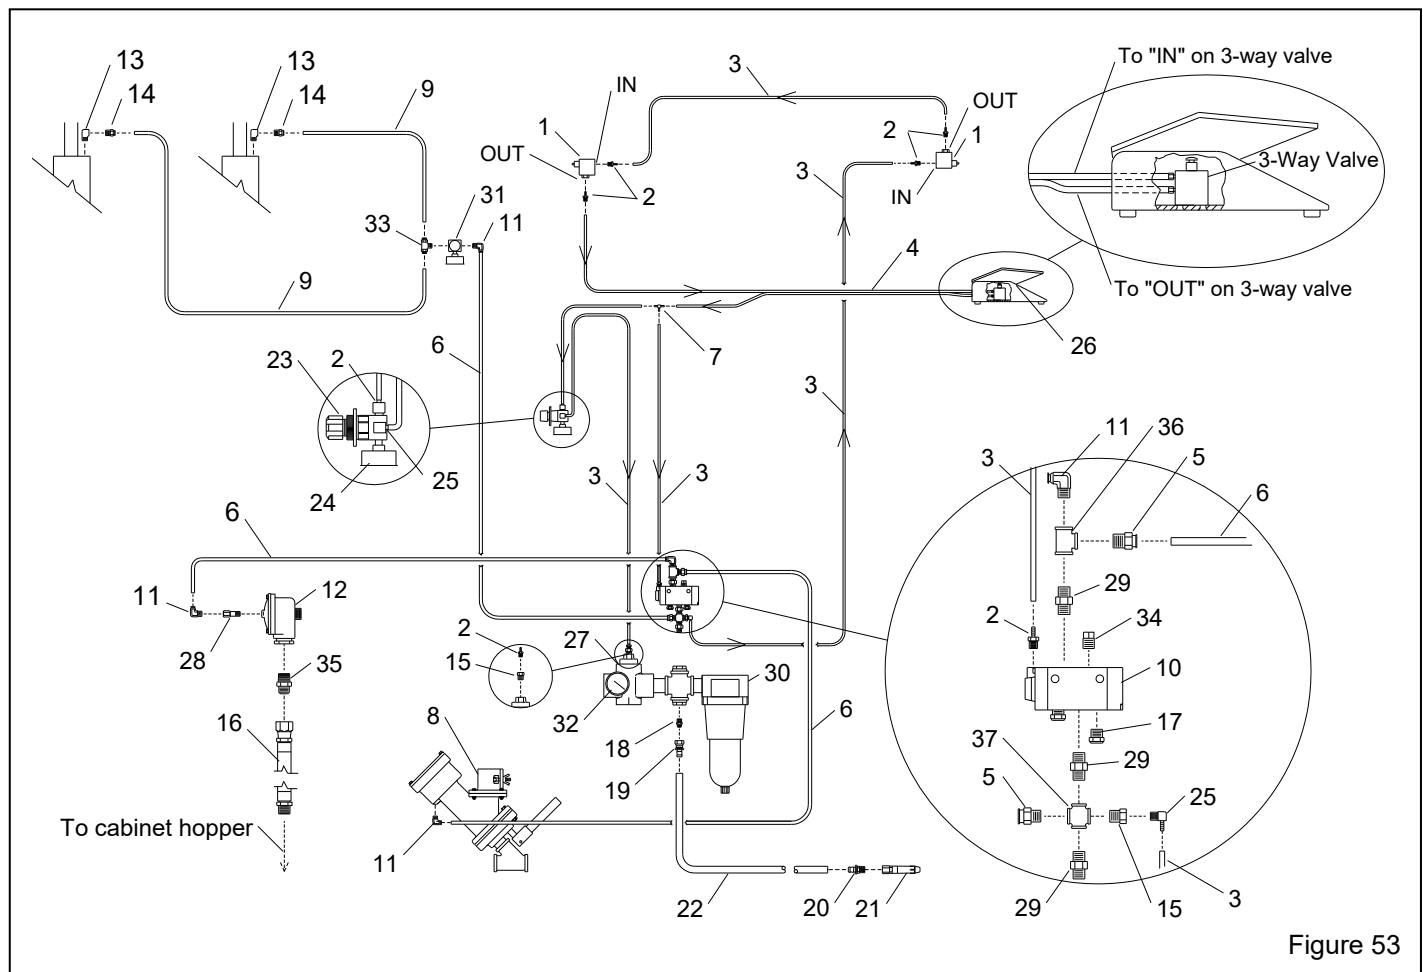

Figure 53
9.8 Plumbing and Cabinet Controls – Figure 53